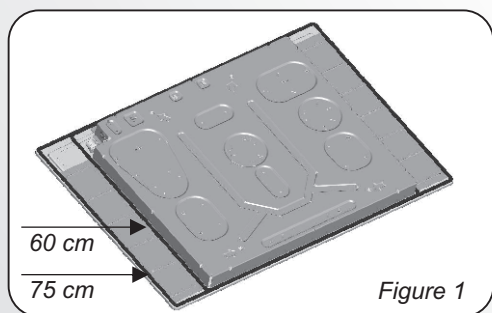

Figure 1
**Important - The diagram in figure 1 shows how the sealant should be applied.**